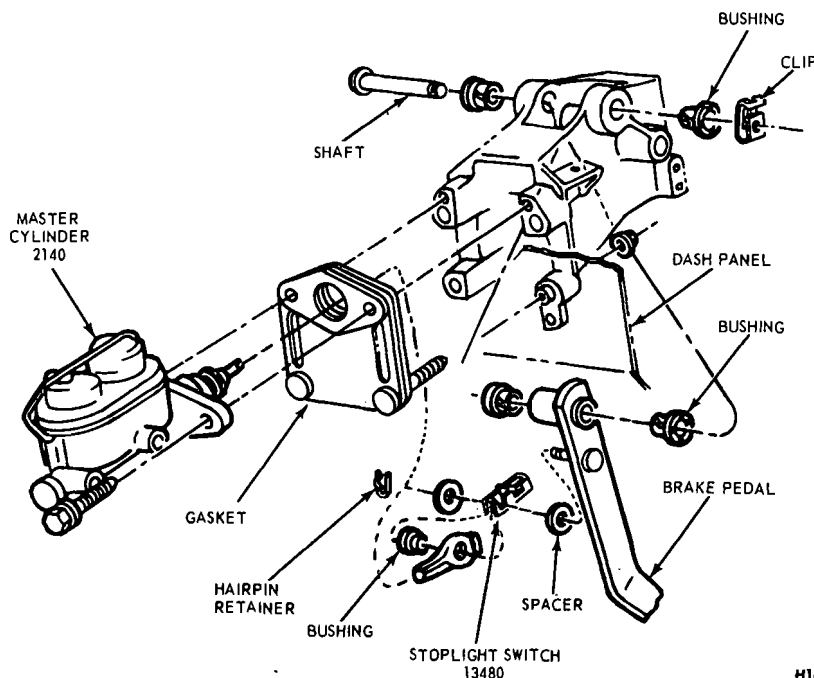

FIG. 10—Dual Master Cylinder Installation—Non Power Brakes—Ford, Mercury, and Meteor
Refer to Fig. 10.
2. Remove the hairpin retainer. Slide the stop light switch off the brake pedal pin **just far enough for the switch outer hole to clear the pin**, and then lift the switch straight upward from the pin. **Be careful not to damage the switch during removal.** Slide the master cylinder or booster push rod and the nylon washers and bushing off the brake pedal pin (Figs. 10 and 15).
1. Apply a coating of SAE 10 Engine oil to the bushings and locate bushings in their proper places on the pedal assembly and pedal support bracket (Figs. 10 and 15).
3. Install the inner nylon washer, the master cylinder or booster push rod, and the bushing on the brake pedal pin. Position the switch so that it straddles the push rod with the switch slot on the pedal pin and the switch outer hole just clearing the pin. Slide the switch completely onto the pin, and install the nylon washer as shown in Figs. 10 and 13. **Be careful not to bend or deform the switch.** Secure these parts to the pin with the hairpin retainer.